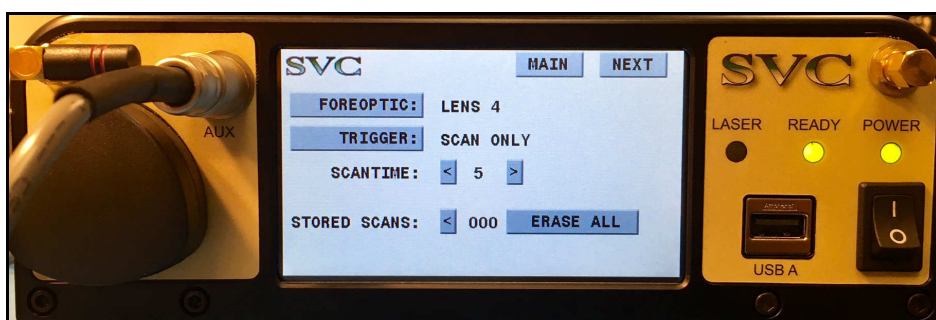

Figure 4 Control / Power Cable AUX Connection and Stand-Alone Scan LCD Setup
1. In order to enable the probe's red Pushbutton Measurement Switch to acquire stand-alone scans, the instrument's "TRIGGER:" setting (found on LCD setup screen #1) must be set to either "LASER + SCAN" or just "SCAN". See Figure 4 for the LCD setup screen.
2. If using an i-Series instrument, disable the probe's red Pushbutton Measurement Switch. The instrument's "TRIGGER:" setting (found on LCD setup screen #1) must be set to "LASER". See Figure 4 for the LCD setup screen